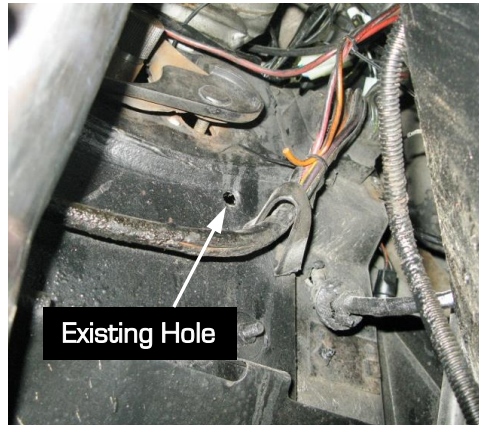

Figure 18 – Route Headlight Harness
20. Drill out the existing hole using a Uni-bit or drill bit up to 1-1/8" (Figure 18). The new headlight harness can be routed through this hole, or you can drill a new hole on the side of the fuse box area. Using the included firewall grommet to protect the wiring, pass the headlight motor connectors through the firewall.